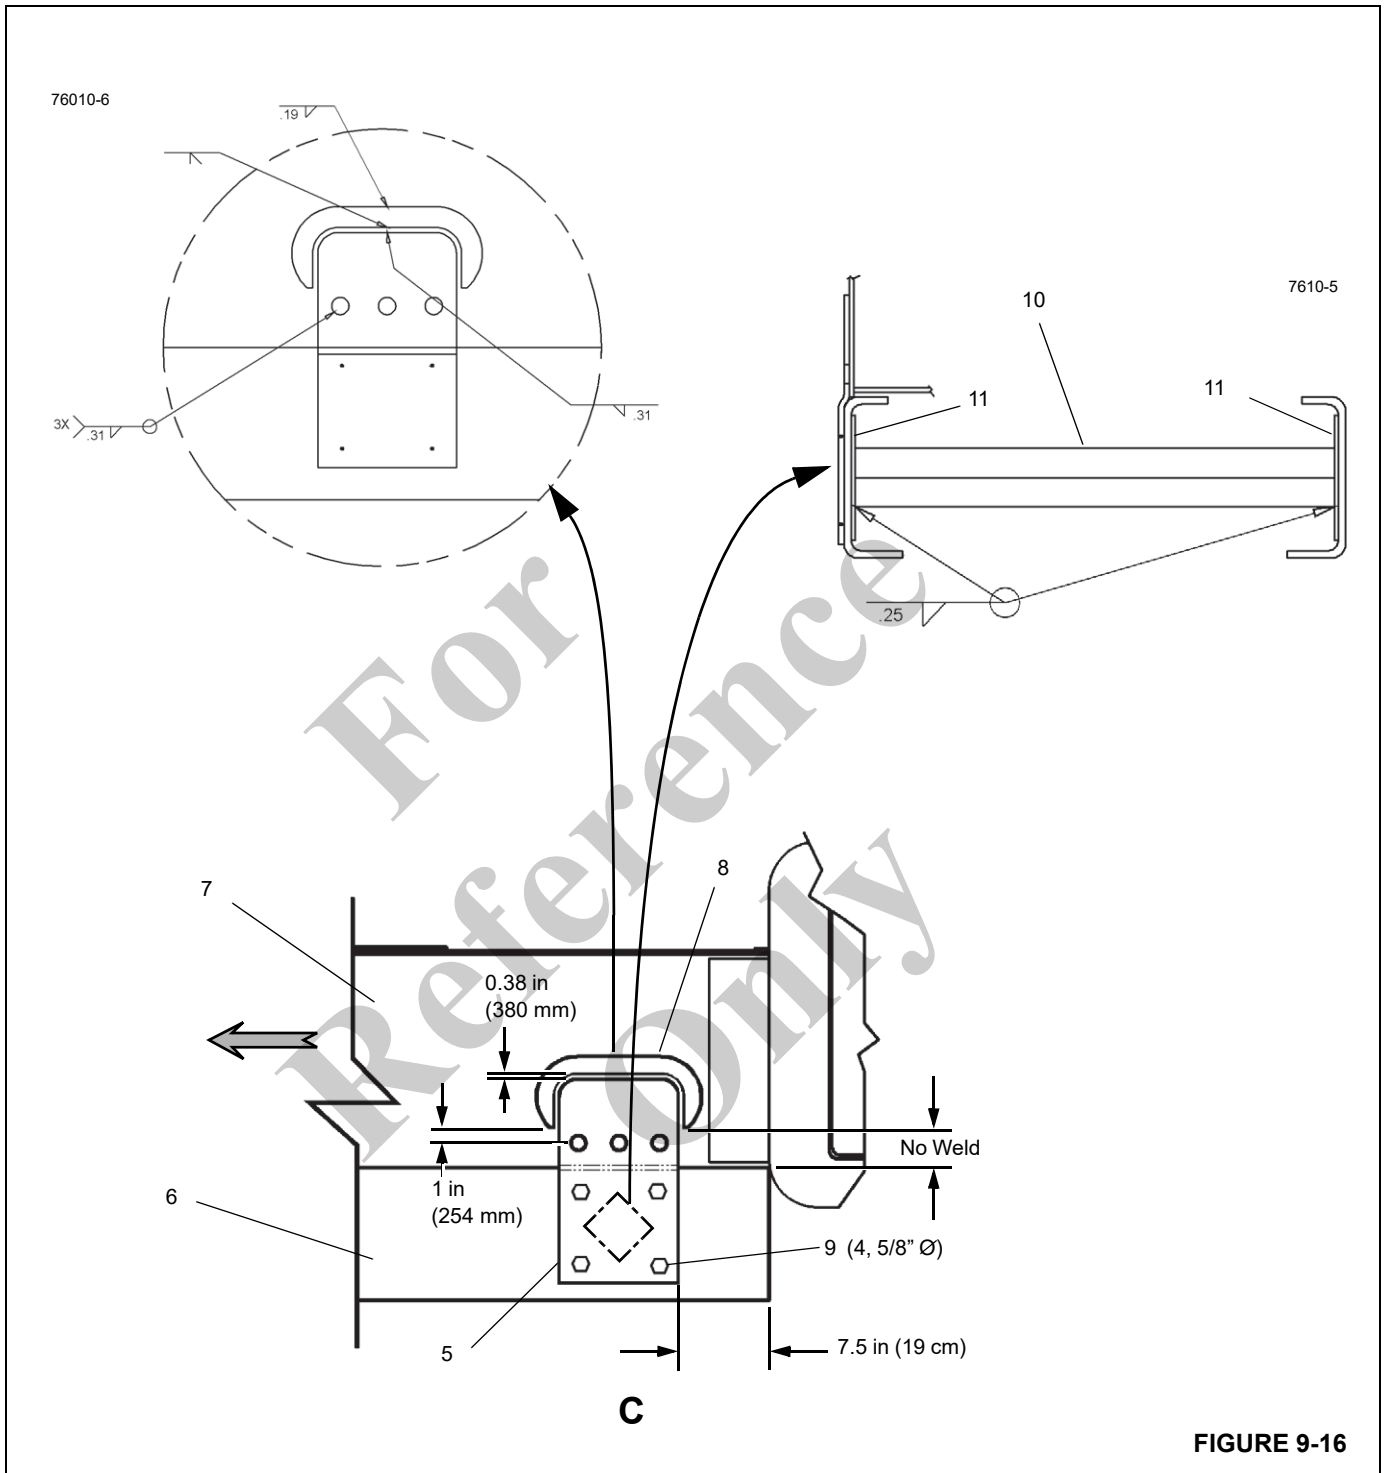

FIGURE 9-16
6. Locate and weld the rear strap plate (5, Figure 9-16) and collar plate (8) to the T-box frame (7). See detail C, Figure 9-16 for locator dimensions and weld requirements.
7. Cut the cross bar (10, Figure 9-16) to fit inside the truck frame (6), be sure to include the width of two plates (11).
8. Weld the two end plates (11, Figure 9-16) to the cross bar (10).
9. Position the welded cross bar assembly (step 8) to the truck frame as shown in Figure 9-16, in the center of both strap plates (5) and tack weld it to the truck frame (6).
10. Use existing bolt holes (9, Figure 9-16) in the rear strap plate (5) as a template to locate and drill four 5/8 in. holes in the truck frame (6) and through the cross bar weldment plate (11).
11. Weld complete the cross bar weldment (10, 11 Figure 9-16) to the truck frame (6)
12. Install and secure, four 5/8 x 2.75 bolts (9, Figure 9-16), flatwashers and nuts.